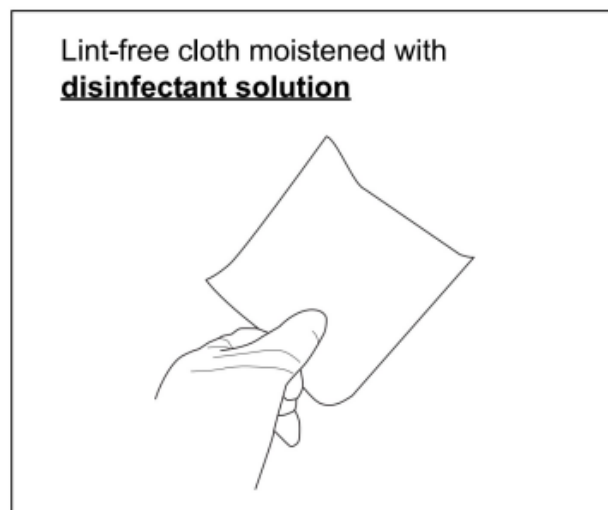

Figure A1-2
4. Prepare another lint-free cloth moistened with disinfectant solution (medical-grade 70% ethyl alcohol, 70% isopropyl alcohol or not greater than 0.65% (6500ppm) sodium hypochlorite) (Figure A1-2).